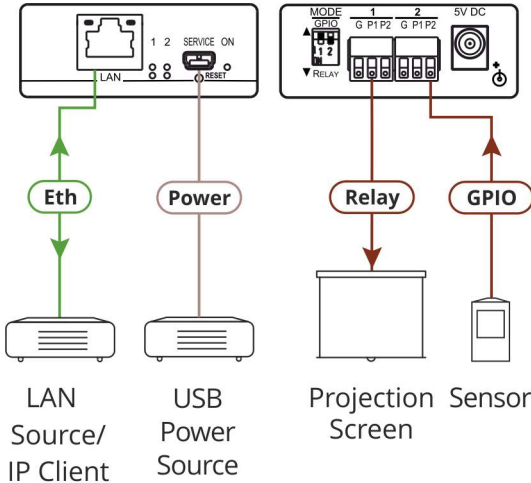

Figure 5: Connecting the FC-7 Ethernet Gateway – GPIO/Relay
To connect the FC-7 as illustrated in the example in Figure 5:
4. If the **FC-7** does not receive power from a USB power connection, connect the device to the power supply and connect the power adapter to the mains electricity (not shown in Figure 5).